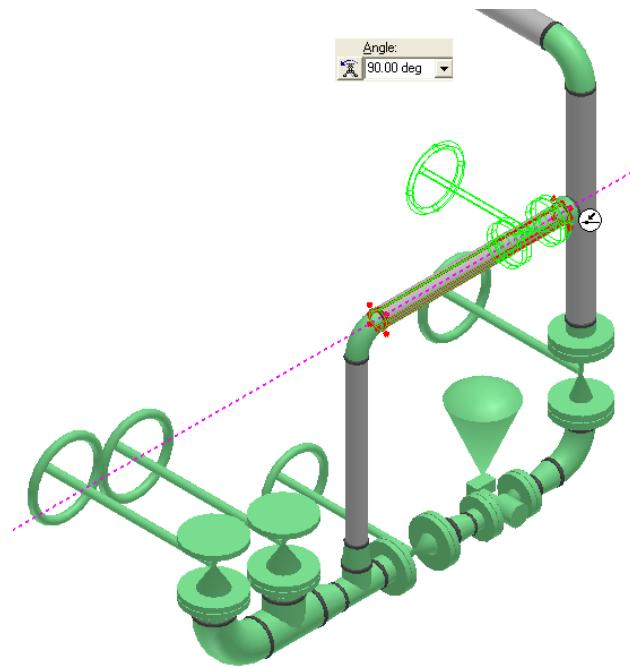

Figure 3.102: Gate Valve Rotated by 90 Deg
62. An outline of the gate valve and the mating flange will appear in the graphic view. Key in **90 deg** in the **Angle** drop-down list on the **Insert Component** ribbon to rotate the gate valve so that the valve operator faces north, as shown in Figure 3.102